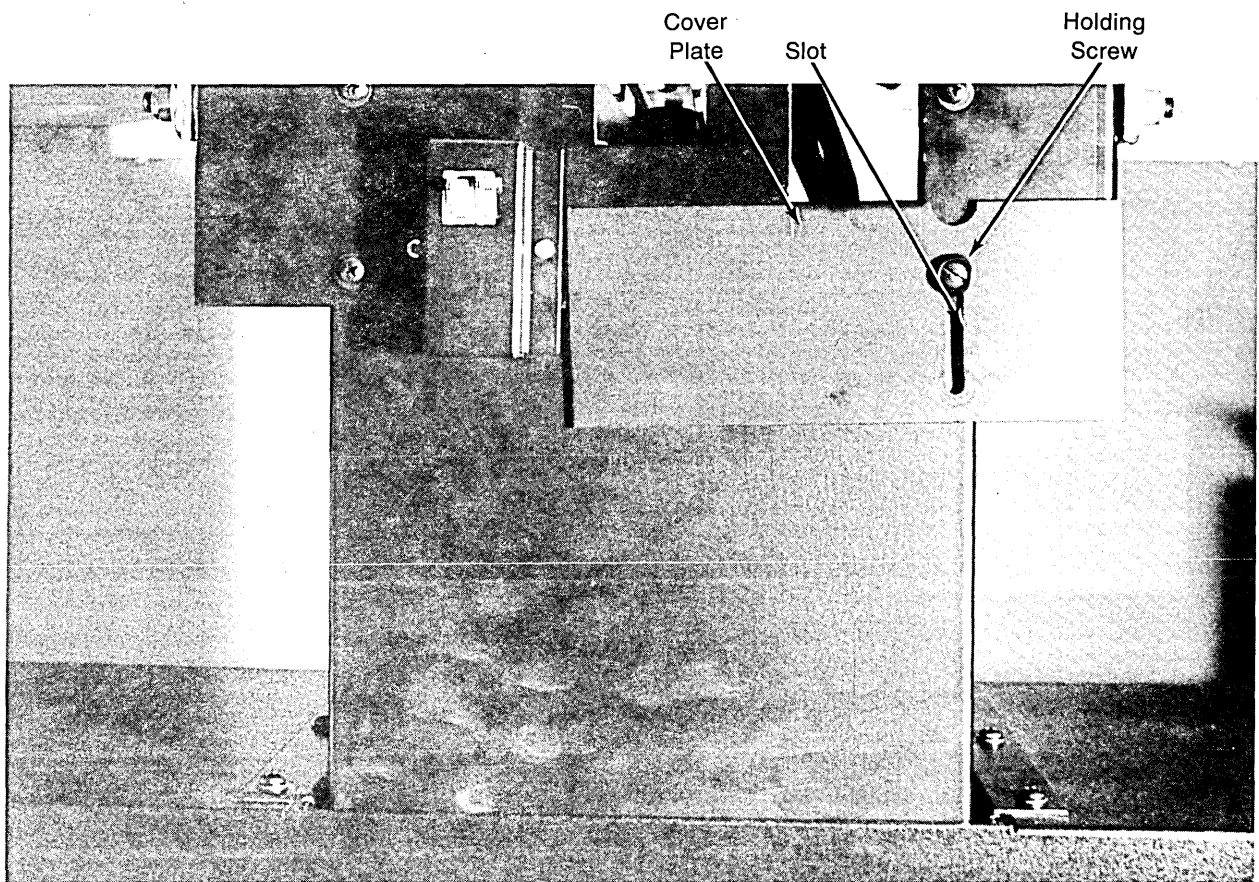

Figure 3-5. Cover Plate in Shipping Position
11. Loosen but do not remove screw holding cover plate (figure 3-5).